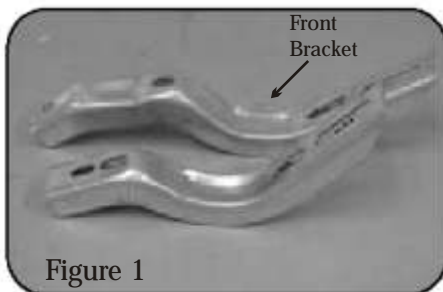

Figure 1
- STEP 2. Determine the two front mount brackets, as these will be installed first. SEE FIGURE 1.